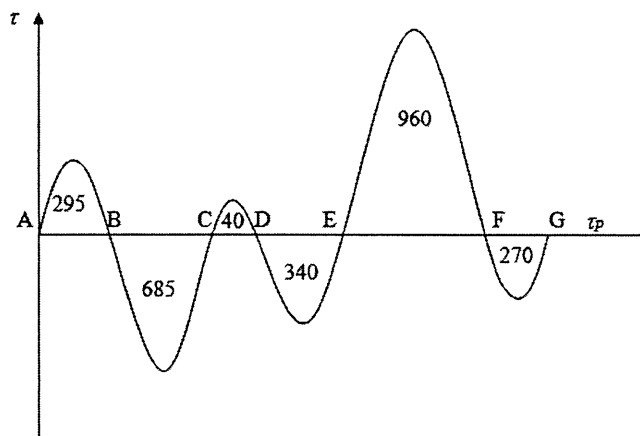

Figure 3
- a) The graph of torque against the crank angle for a petrol engine is drawn to the following scales: torque, 1 mm = 5 Nm; crank angle, 1 mm =  $1^\circ$  as shown in Figure 3 below. The areas above and below the mean torque,  $\tau_P$  line, taken in order, are 295 mm2, 685 mm2, 40 mm2, 340 mm2, 960 mm2 and 270 mm2. The rotating parts are equivalent to mass of 36 kg at a radius of gyration of 150 mm. **Compute** the coefficient of fluctuation of speed, when the engine runs at 1800 rev/min. (6 marks)